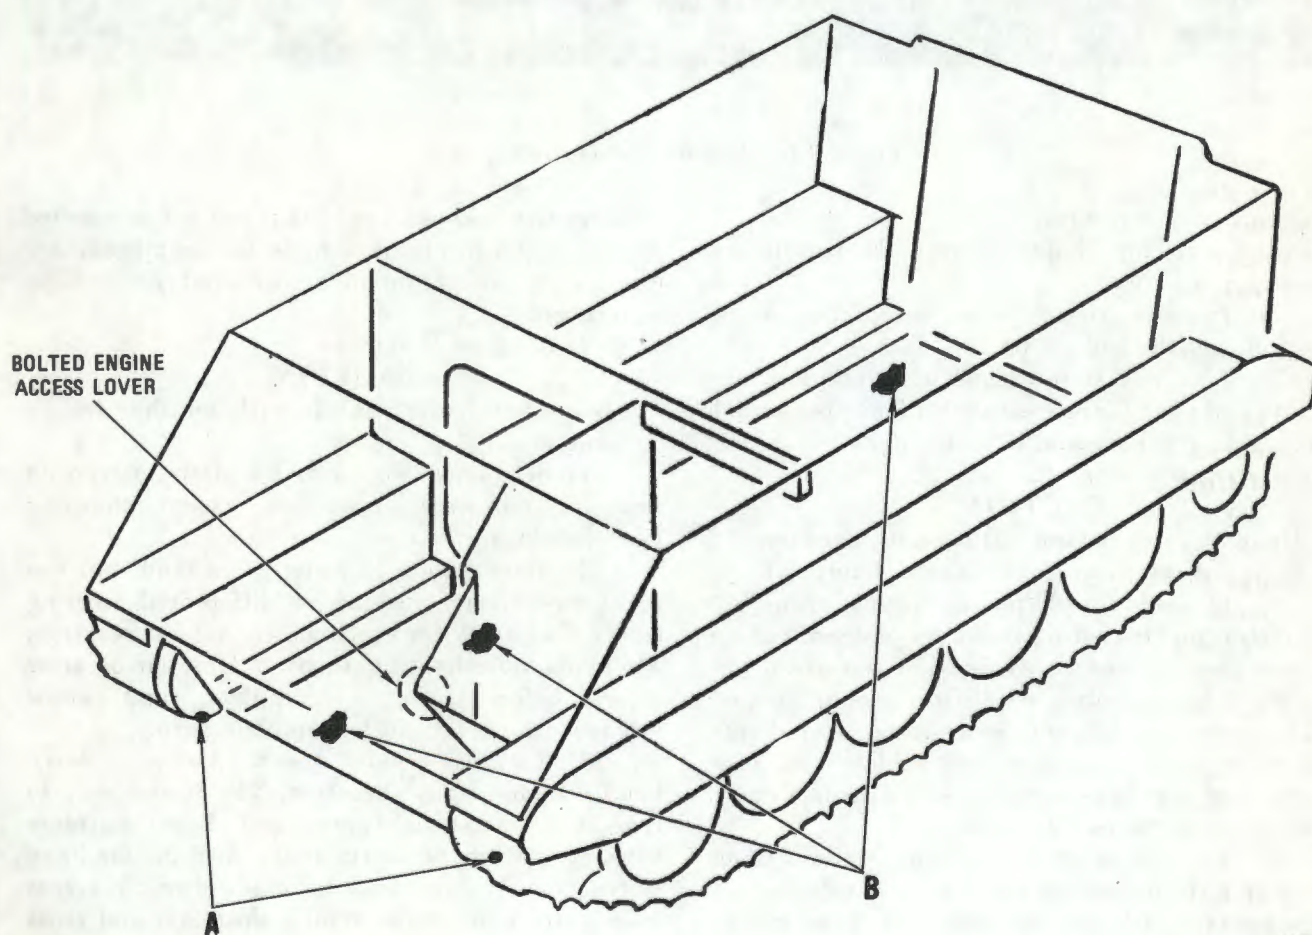

Figure 2-45. Hull drain plugs.
(1) Check hull drain plugs (fig 2-45) and bolted access covers for tightness.